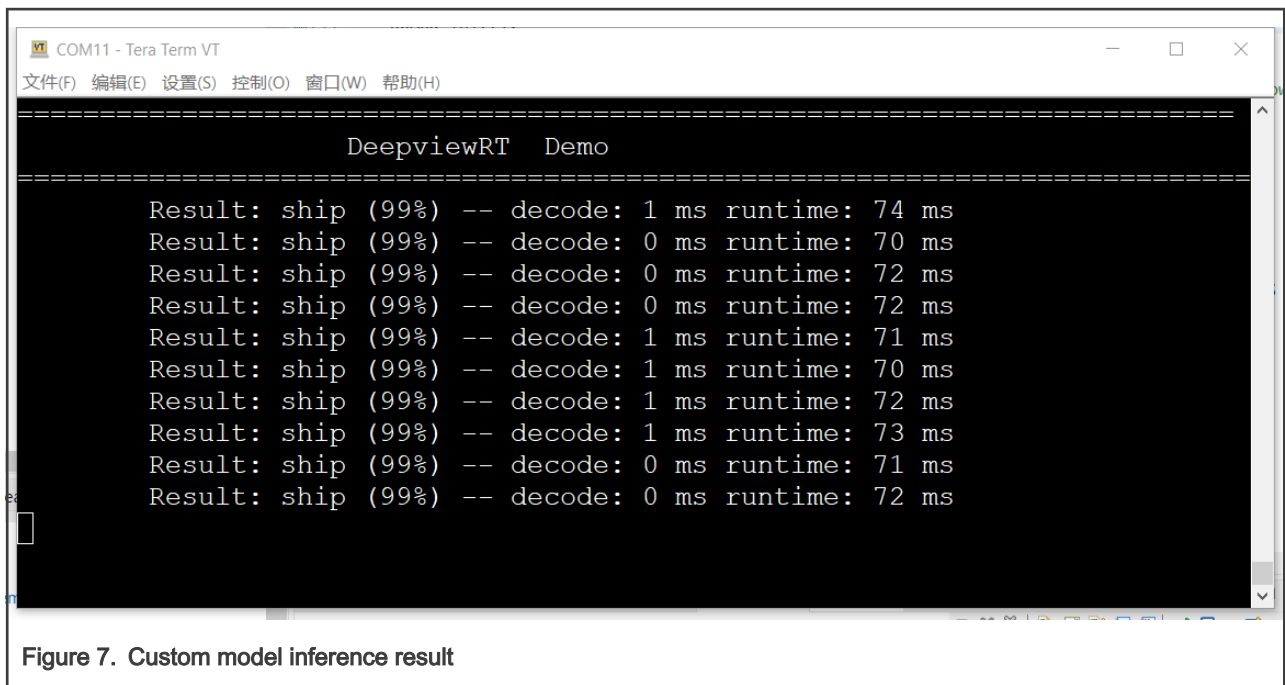

Figure 7. Custom model inference result
5. After building and downloading the project into board, boot up the EVK board. The debug information shows the custom model inference result, as shown in Figure 7.